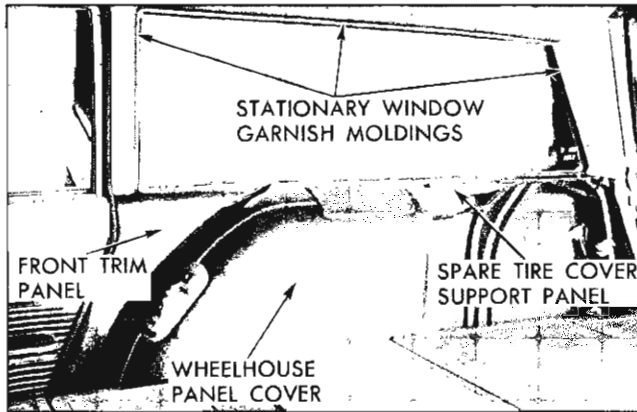

Fig. 78—Stationary Window Assembly
2. Remove rear quarter front trim panels, rear quarter rear trim panel, rear quarter wheelhouse panel cover, spare tire cover, and spare tire cover support (fig. 78).
3. Remove rear quarter stationary window channel lower retainers (one (1) required for right side, two (2) required for left side), (fig. 78).